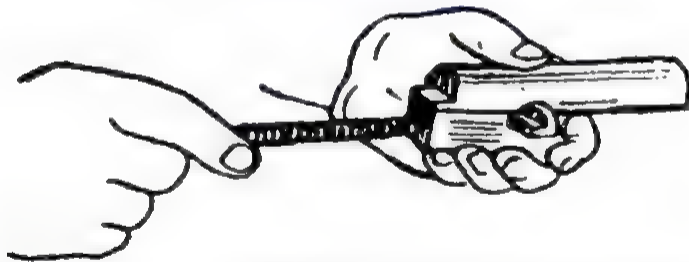

Figure 43 How to insert the bolt with the return spring, mainspring guide and buffer into the bolt recess.
2. Insert the return spring into the bolt recess (Figure 43)